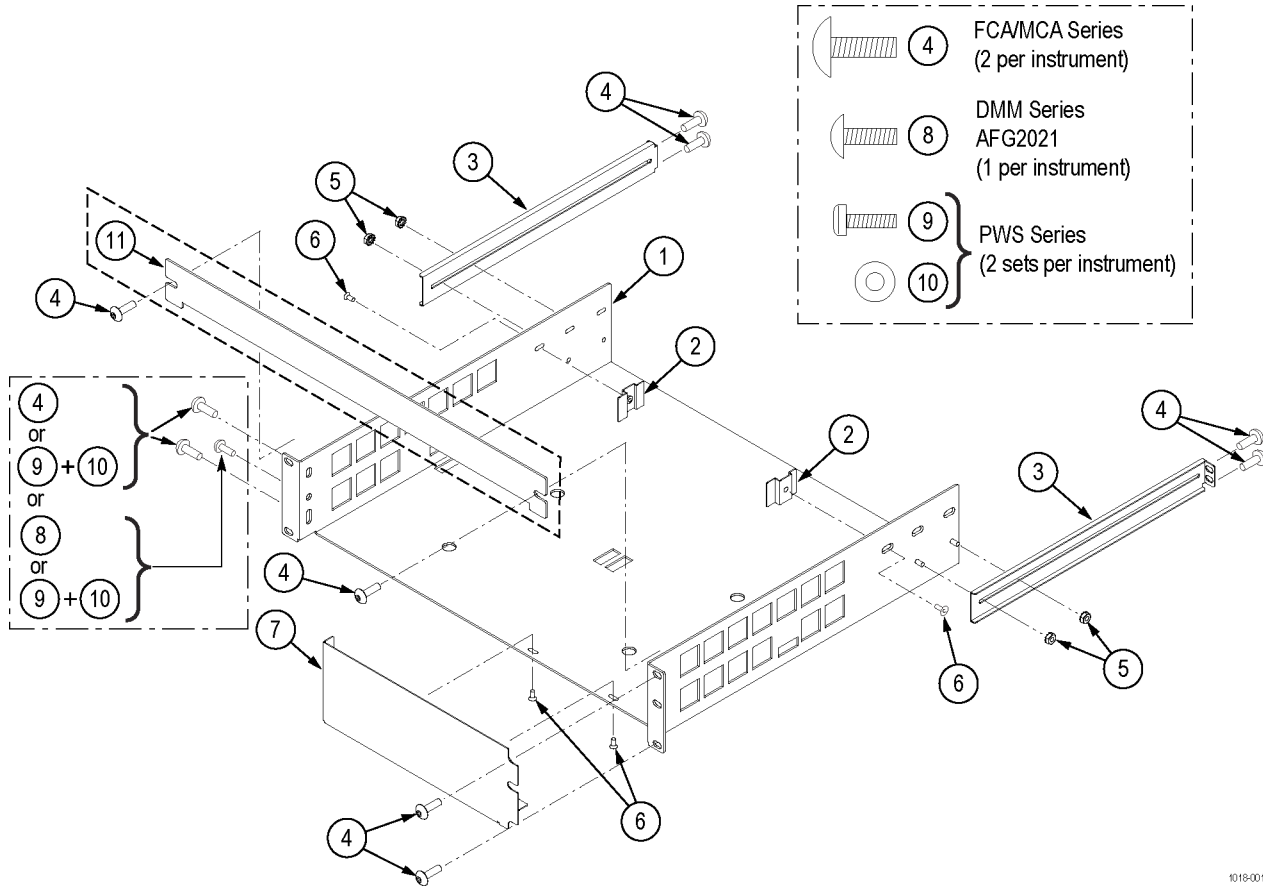

Figure 1: Rackmount kit parts diagram
6. Attach the front side of the instrument to the rackmount tray using the appropriate screw or screws. (See Figure 1 on page 4.)